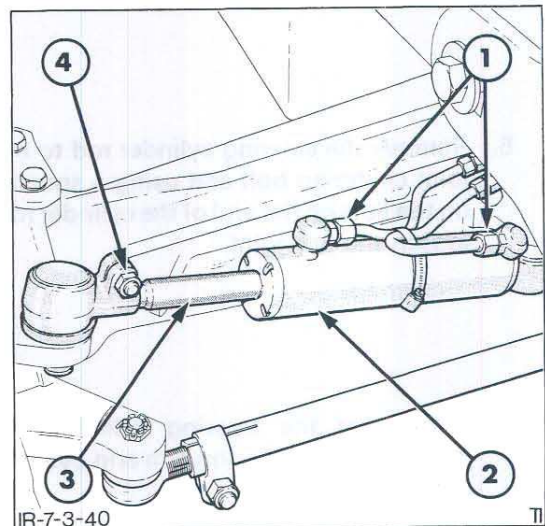

Figure 40
3. Disconnect the hydraulic steering connections to the cylinder, Figure 40 and cap the open ends of the connections. Remove the hose clip securing the tubes to the cylinder.